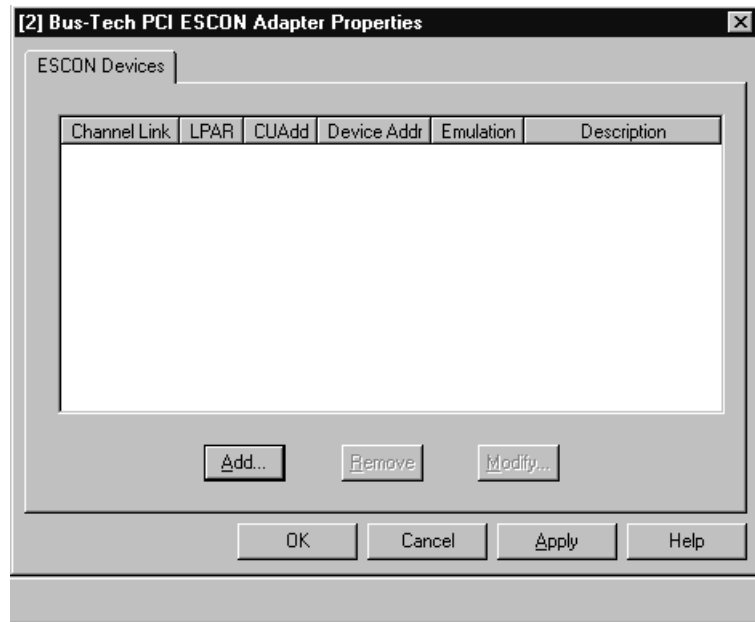

Figure 3-10. ESCON Configuration
6. Once the addition procedure is complete, the system will display the ESCON Configuration screen (Figure 3-10). At this point you may define the ESCON configuration (see Chapter 4) or click OK to complete the installation (without defining the ESCON configuration).